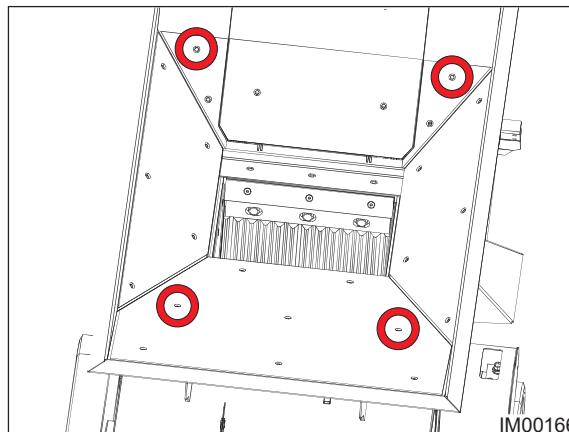

Fig: 11.26 - Hopper
4. Remove the crusher hopper to allow access to the jaw plates. Do this by removing 4 of the counter-sink bolts in the wear plates (Fig: 11.26) and install M12 lifting eye bolts.